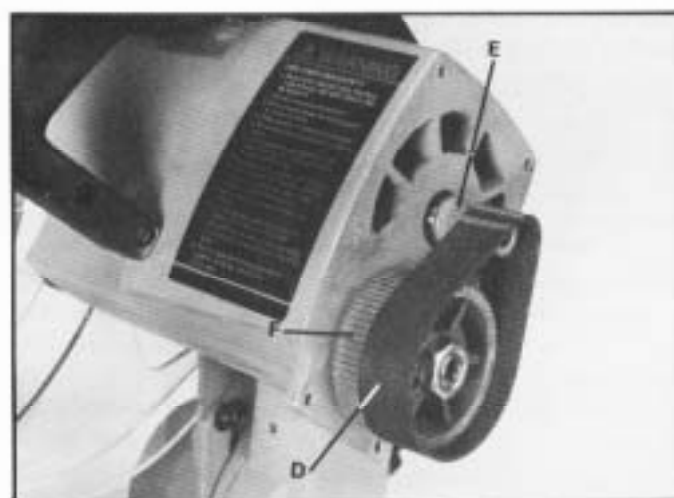

Fig. 35
4. Place new belt (D) Fig. 35, on teeth of arbor pulley (F) and armature shaft (E) as shown. Push in belt (D) and at the same time turn arbor pulley (F) until belt is completely engaged.